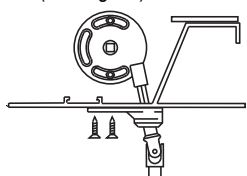

Figure 10
- ④ Insert crank shaft through the bottom closure end bracket and into crank gear, then attach to end brackets (see Fig. 10).